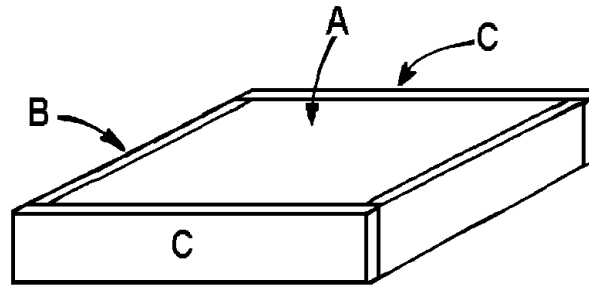

Figure 1
1. The top (A) is simply a 20-inch square section of laminated pine that is framed by 1 x 4 pine boards. Cut two short frame pieces (B) from 1 x 4 pine, each 20" long.
2. Glue and screw the two short frame pieces (B) to opposite edges of the laminated square top (A), as shown in *Figure 1*. The edges of the short frame pieces (B) should be flush with the top surface of the laminated square top (A). Use 1-1/4"-long screws, and space them about four inches apart. Countersink the screws.
3. Cut two long frame pieces (C) from 1 x 4 pine, each 21-1/2" long.
4. Glue and screw the two long frame pieces (C) to the remaining two edges of the laminated square top (A), as shown in *Figure 1*. The long frame pieces (C) cover the exposed ends of the short frame pieces (B). Again use glue and 1-1/4"-long screws placed about every 4 inches. Countersink the screws.